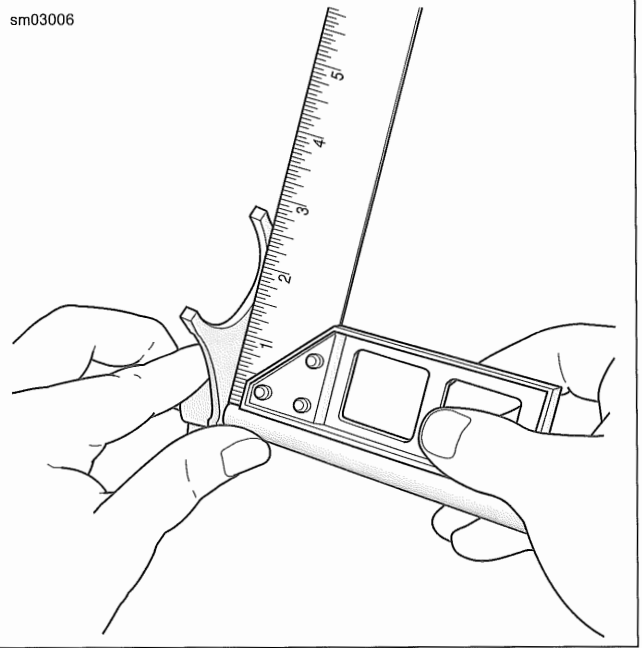

Figure 5-54. Checking Fork
7. See Figure 5-54. Using a small square, verify that the shift forks are square. Replace shift fork if not square.